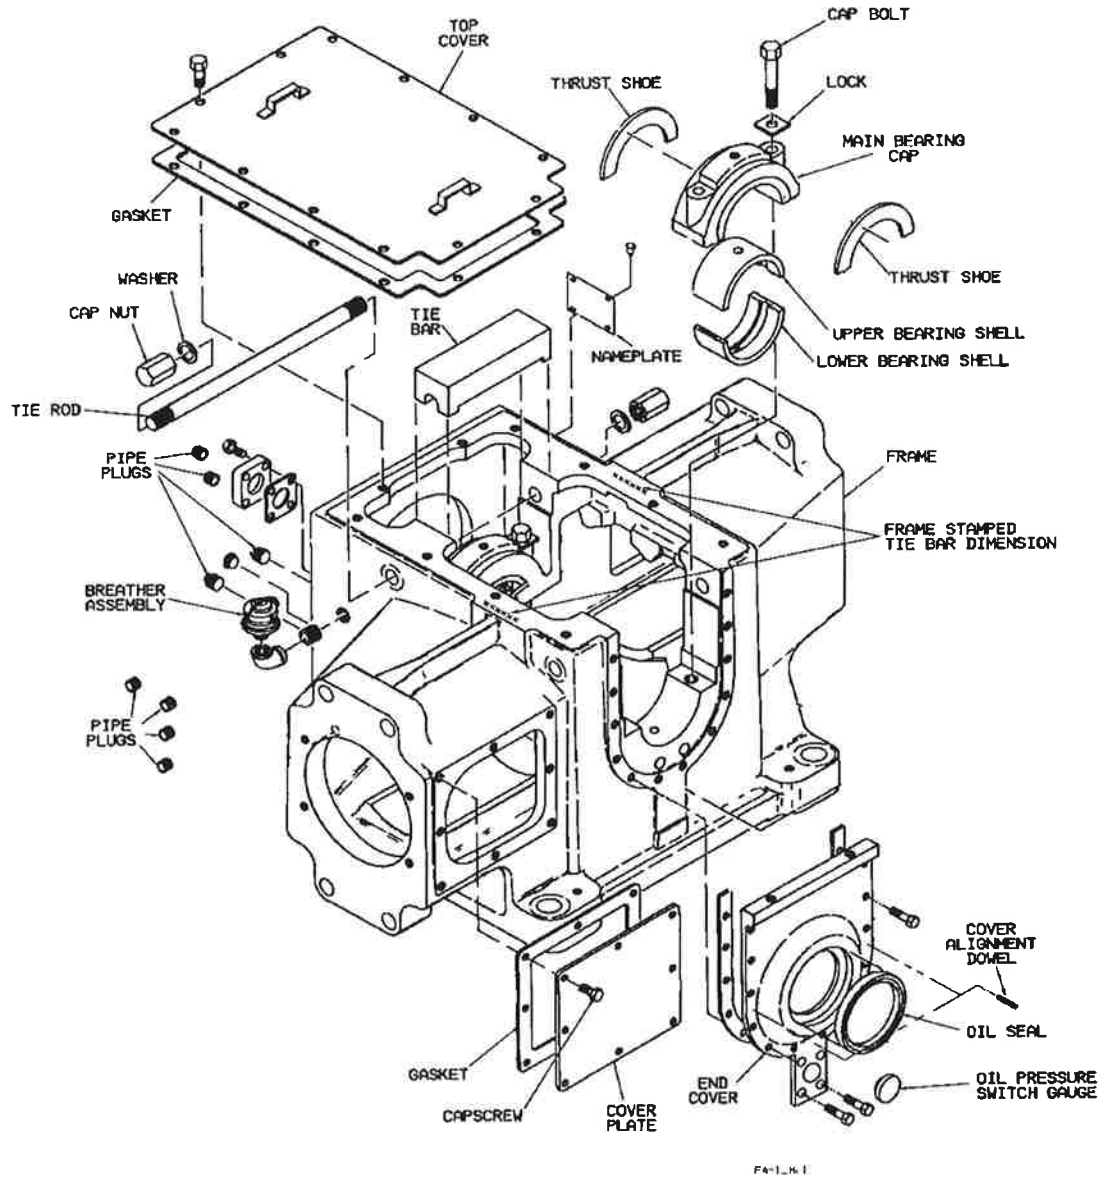

FIGURE 4-1. TYPICAL HOS FRAME
1. The compressor frame (Figure 4-1) is a rigid, cast iron structure designed to provide a suitable mounting for compressor cylinders, crankshaft and other running gear, and to hold all parts in accurate alignment under the stresses and strains involved in operation. Suitable ribs and partitions are incorporated in the frame design to provide maximum strength compatible with reasonable weight.
11. Replace the main bearing tie rod and spacer, using Teflon® pipe thread sealer under the nut heads and on the tie rod threads. The spacer is sized for an interference fit with the frame opening. Position the tie rod in the frame and spacer so that it is centered with respect to the frame. Place a washer over each end of the tie rod and then assemble and snug up the cap nuts evenly. Tighten one of the nuts until the measured distance in the spacer opening is not less than, and no more than 0.002 inch (0.05 mm) greater than, the dimension stamped in the frame adjacent to the spacer. See Figure 4-1 for stamping location.